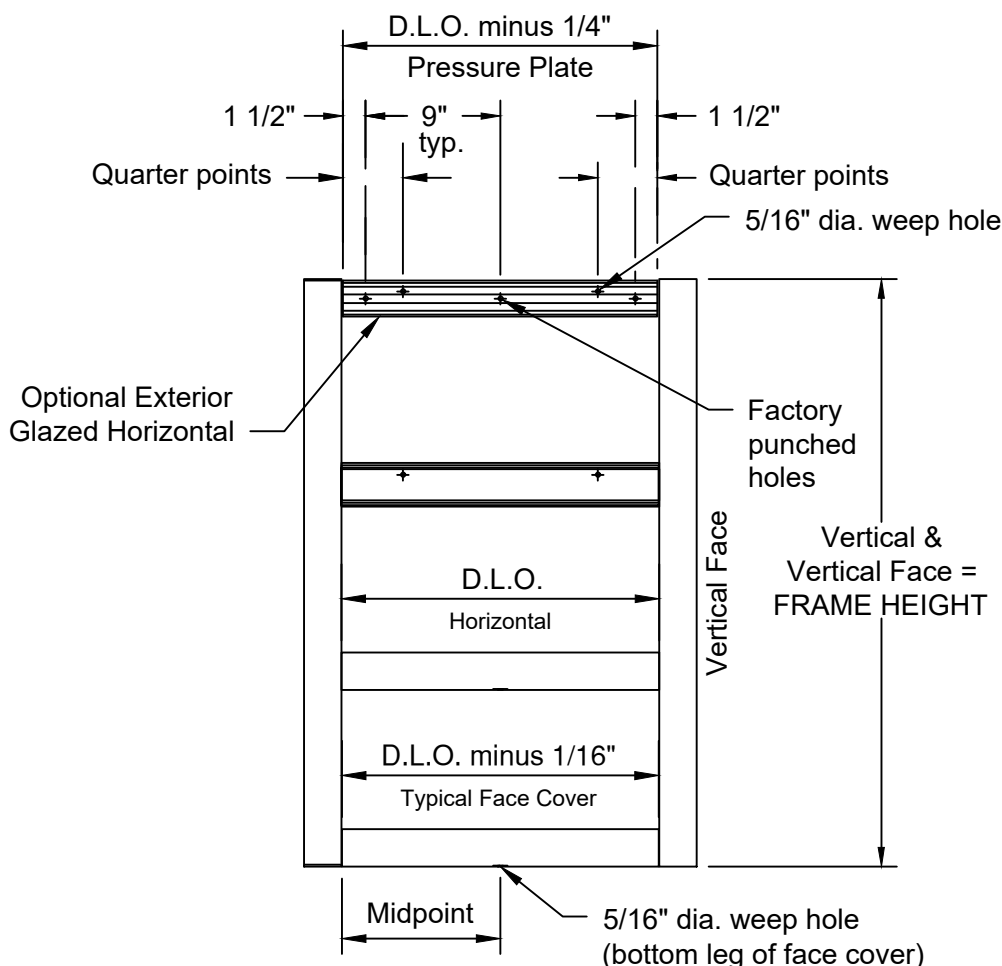

FIGURE 1
- 1.2. Cut material to size. SEE FIGURE 1, page 5 for guide.